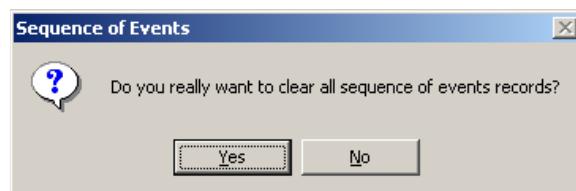

Figure 2-32 Clear Sequence of Events Record Command Confirmation Screen
1. From the IPScom Main Screen menu select **Relay/Sequence of Events/Clear**. IPScom will display the Clear Sequence of Events Records confirmation screen (Figure 2-32).